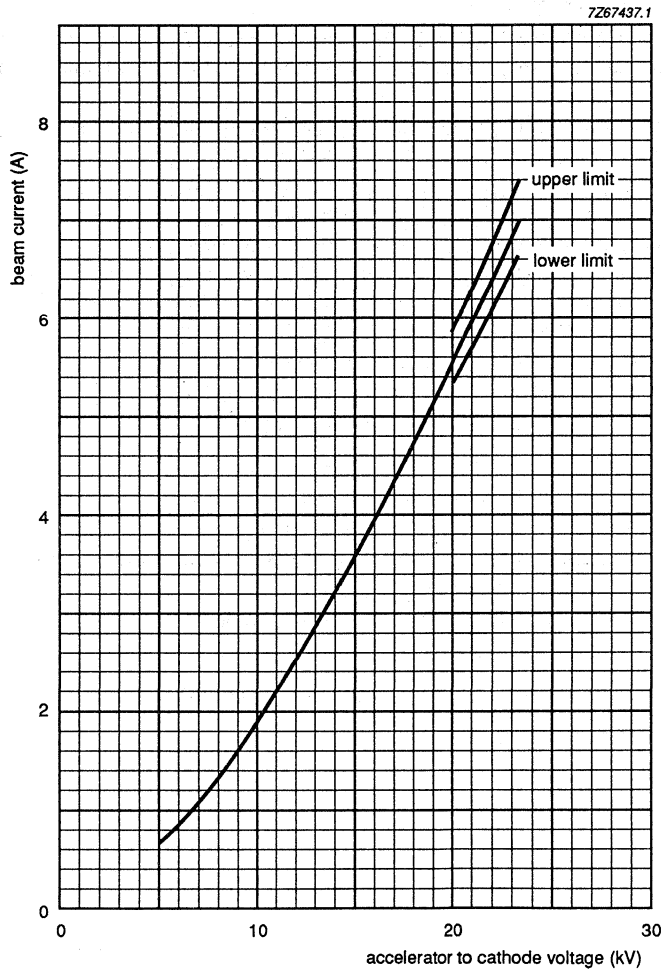

Fig. 4 Beam current as a function of accelerator to cathode voltage (ABC electrode at cathode potential).
8. If the accelerator electrode is connected to the body (ground) via 10 k Ω resistor, the beam current is within $\pm 5\%$ of the value given in the graph of Fig. 4.